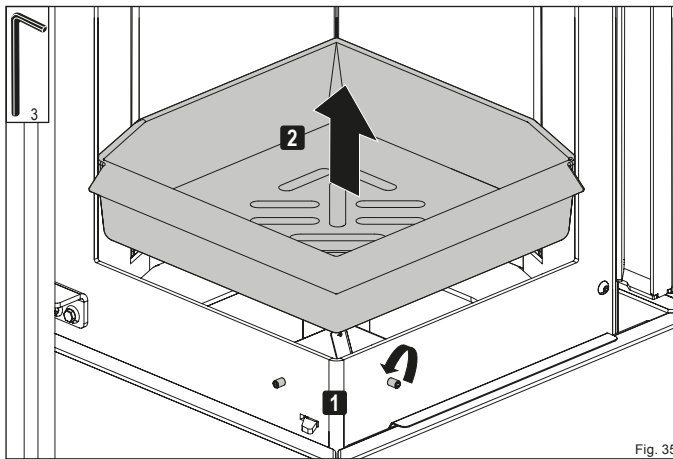

Fig. 35
- ▶ Loosen the set screws **1** and raise the fire grate **2** (Figure 35).